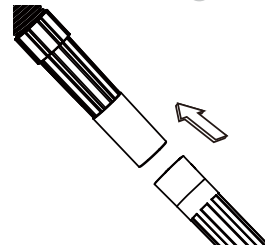

Fig. 7
14. Choose the desired accessory and insert onto the end of the hose **11**. **Fig. 7.**